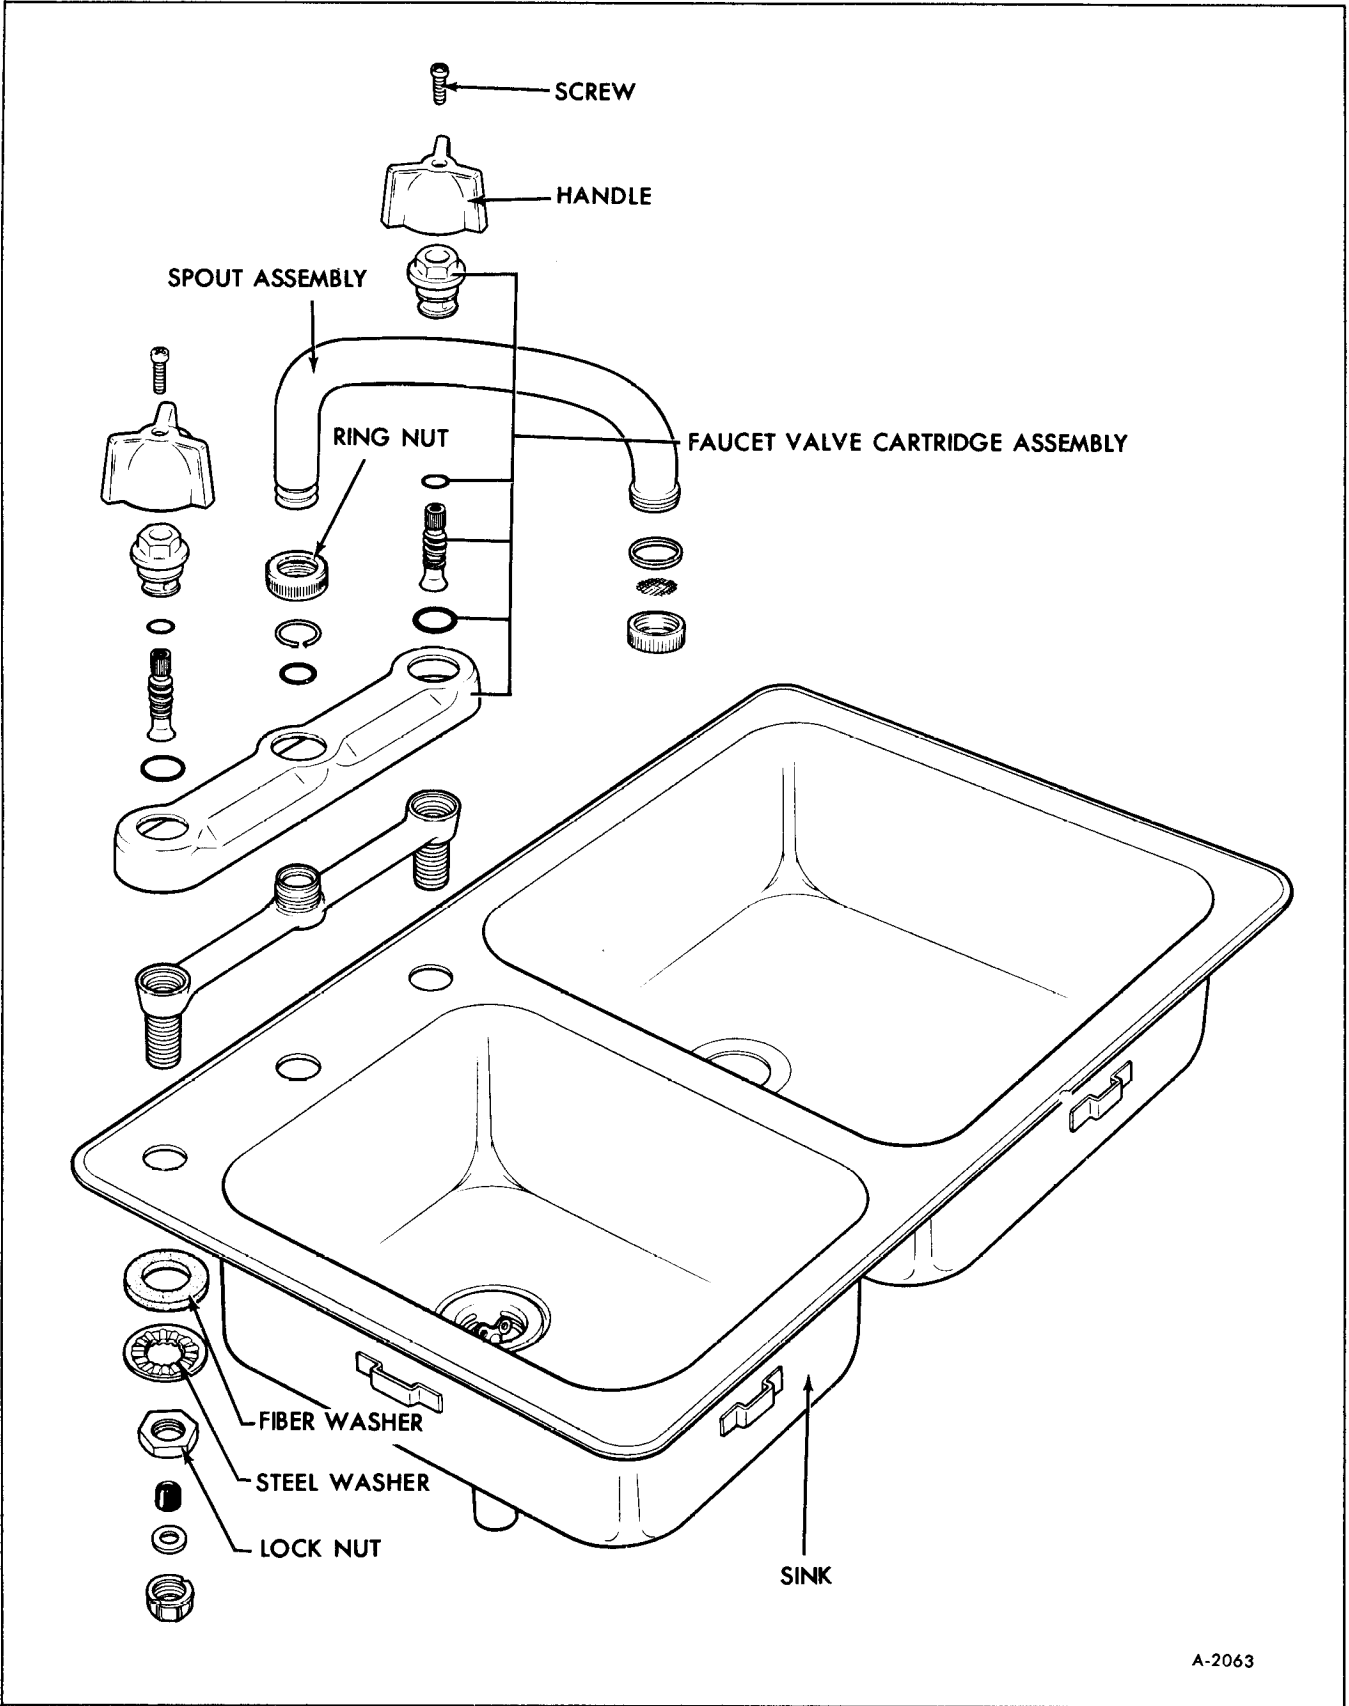

Figure 14-Galley Sink Components
### REMOVAL (FIGURE 14)
### INSTALLATION (FIGURE 14)
3. Remove lock nuts steel and fiber washers (See figure 14).